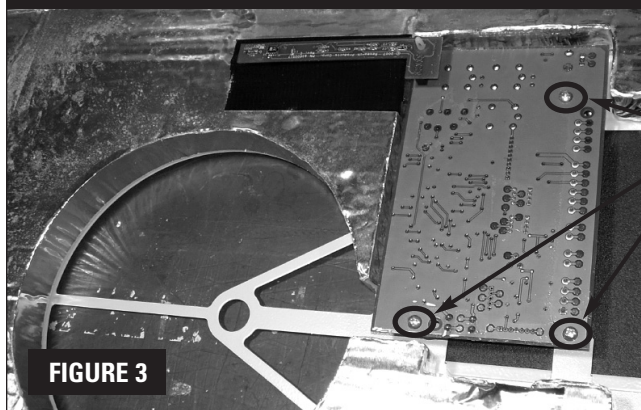

FIGURE 3
- A. Place the new control and sensor board into the opening and insert the (3) mounting screws. (See **Figure 3**)
- B. Reconnect the ribbon cable and (2) frost sensor terminals back into the board.